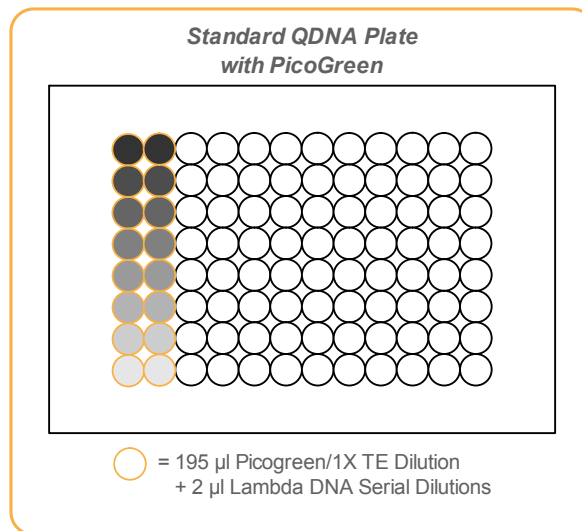

Figure 14 Standard QDNA Plate with PicoGreen
2. Using a multichannel pipette, transfer 195 μl PicoGreen/1X TE dilution into each well of columns 1 and 2 of the Fluotrac plate labelled "Standard QDNA" (Figure 14).